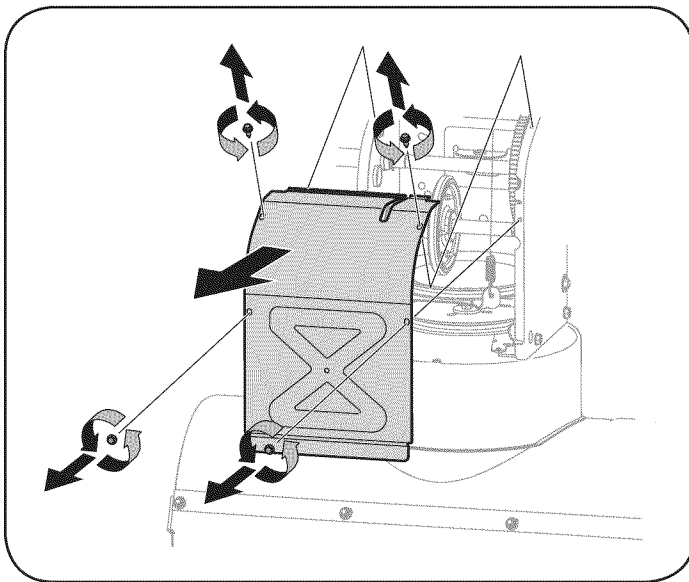

Figure 29
5. Remove the frame cover from the underside of the snow thrower by removing four self-tapping screws which secure it. See Figure 29.